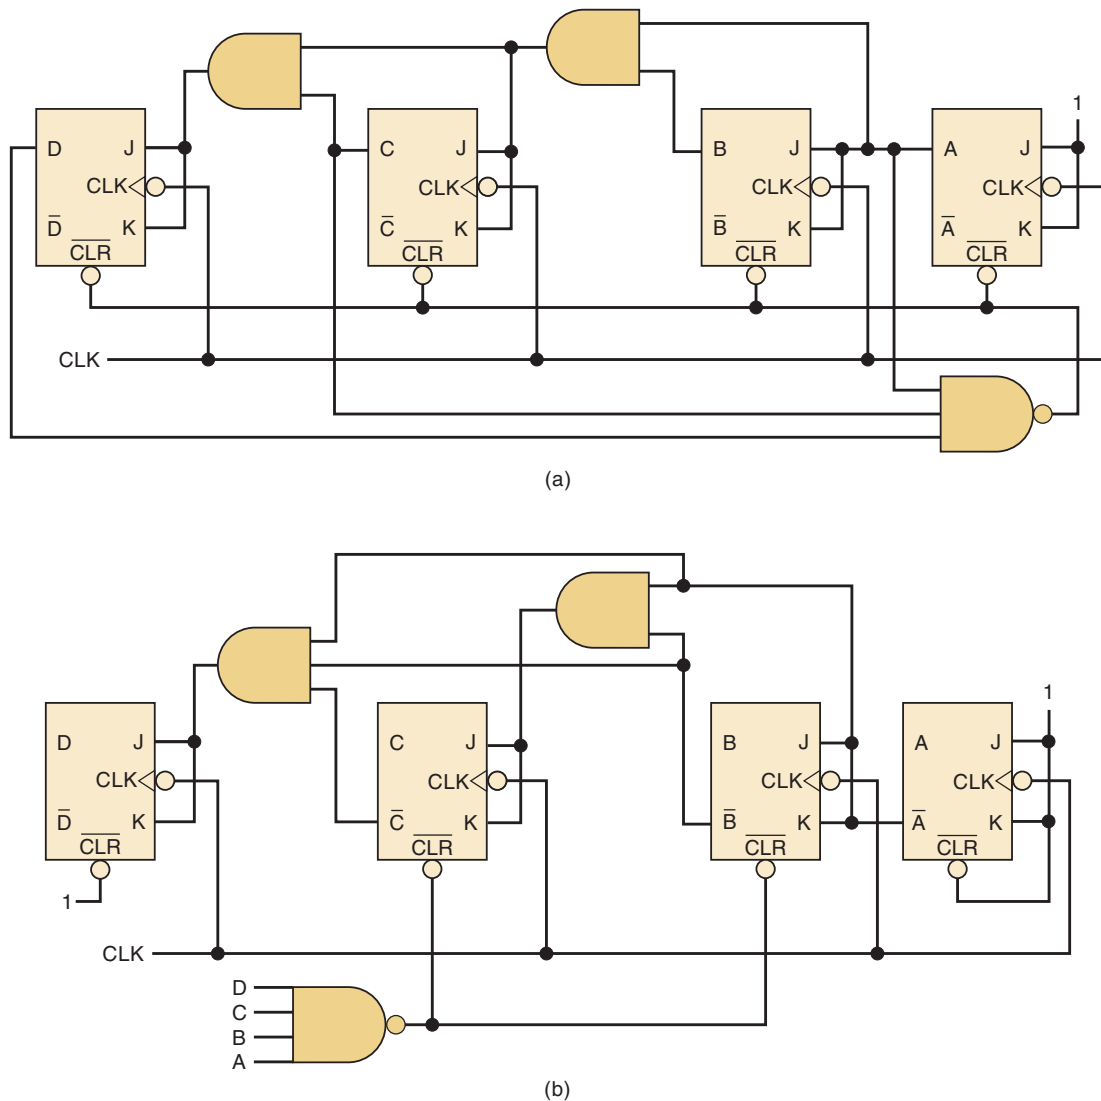

FIGURE 7-110 Problems 7-37 and 7-38.
- C** 7-37* Analyze the synchronous counter in Figure 7-110(a). Draw its timing diagram and determine the counter's modulus.
- C** 7-38. Repeat Problem 7-37 for Figure 7-110(b).